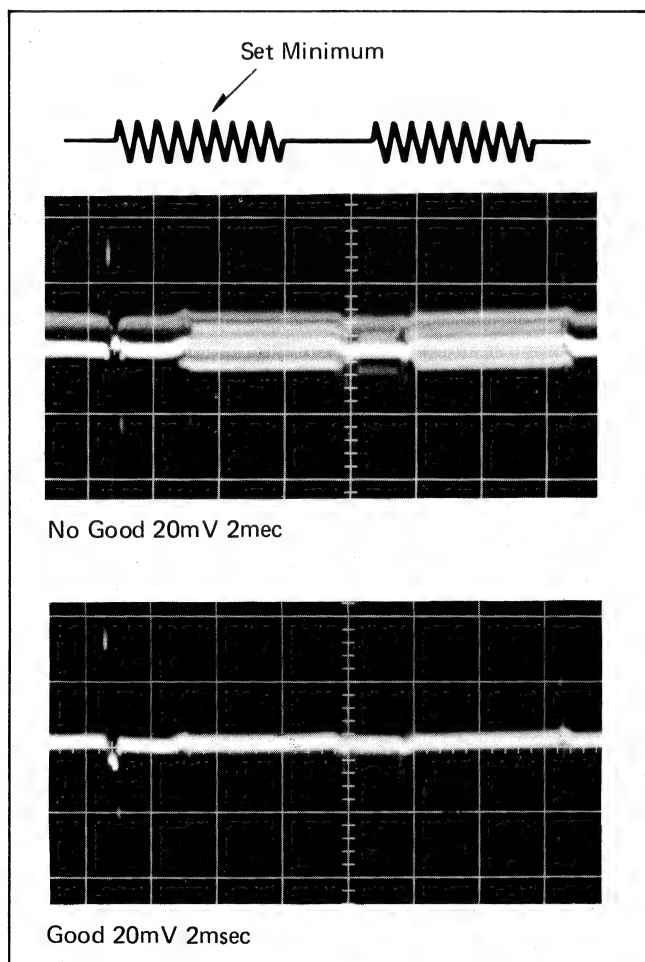

Fig. 12 Vertical Edge Correction Signal at TP311
- Adjust the vertical edge balance control VR319 so that the vertical edge correction signal is minimized, as shown in Fig. 12.